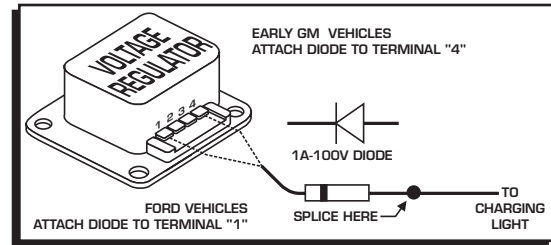

Figure 4 Installing the diode to a GM or Ford Vehicle.
**Early Ford and GM:** To solve the Run-On problem, a Diode is supplied with the MSD in the parts bag. By installing this Diode in-line of the wire that goes to the Charging indicator, the voltage is kept from entering the MSD. Figure 4 shows the proper installation for early Ford and GM vehicles.
**Note:** Diodes are used to allow voltage to flow only one way. Make sure the Diode is installed facing the proper direction (as shown in Figure 4).